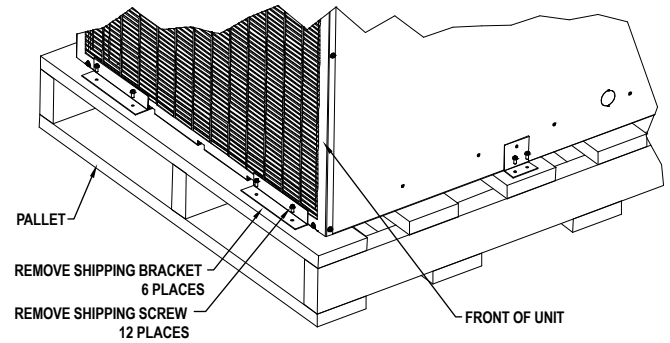
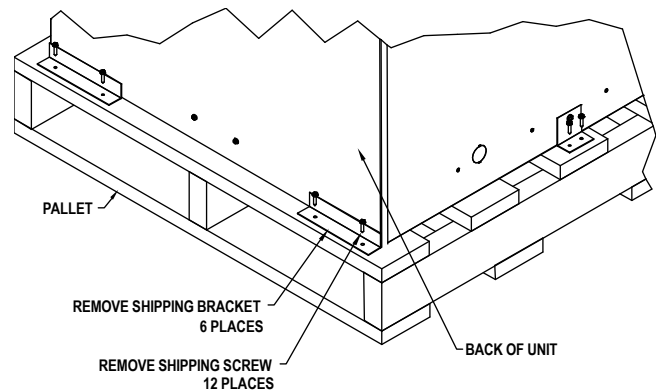

FIGURE 3 - Standard Packaging with Brackets - Front View
FIGURE 4 - Standard Packaging with Brackets - Back View
- 9) Ensure that the shipping brackets and screws are removed from the chassis section. Refer to FIGURE 3 - Standard Packaging with Brackets - Front View & FIGURE 4 - Standard Packaging with Brackets - Back View for more information.
- a. Check that the gas manifold is firmly in place on the burner box and secured with the provided screws (4).